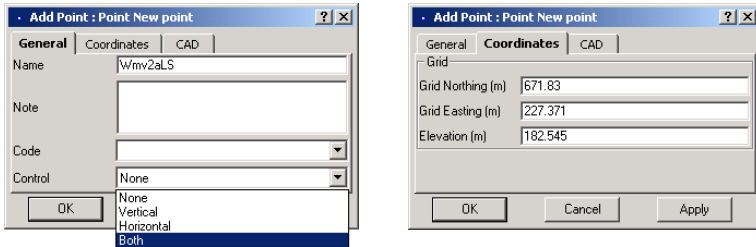

Figure E-33. Add Point Dialog Box - General and Coordinates Tabs
2. Enter a point's *Name* (Wmv2aLS) and *Coordinates* in the Local System (Figure E-33). Click **OK**.